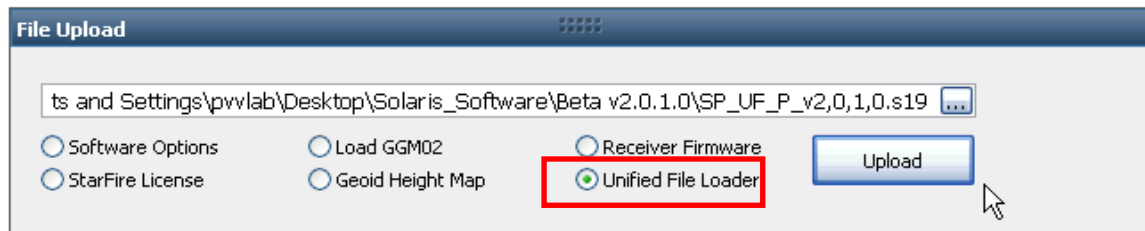

Figure 10: File Upload – Unified File Loader
2. Select *Unified File Loader* on the *File Upload* dialog box (see Figure 10).
5. Select the appropriate *unified* file to upload and click  (see Figure 10).